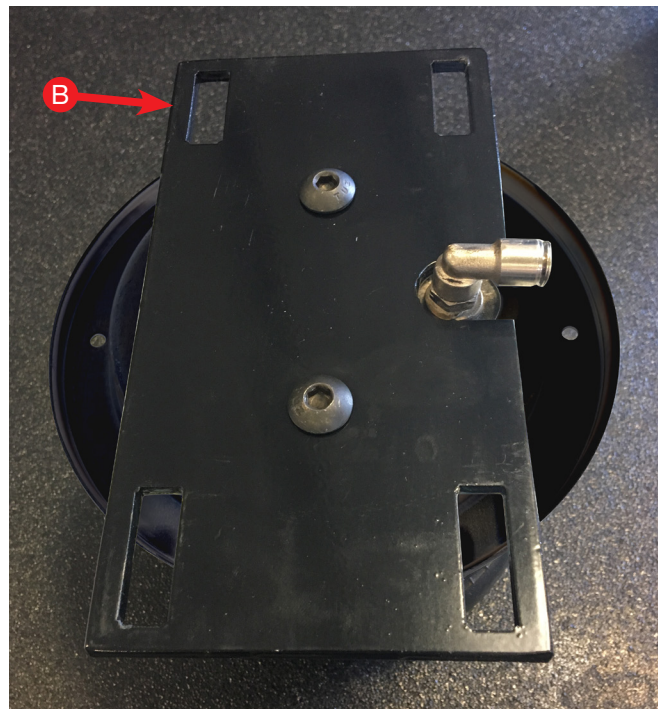

Fig. 17
3. Insert four carriage bolts (J) into the upper air spring bracket (B) and set the upper bracket onto the air spring assembly (Fig. 17).